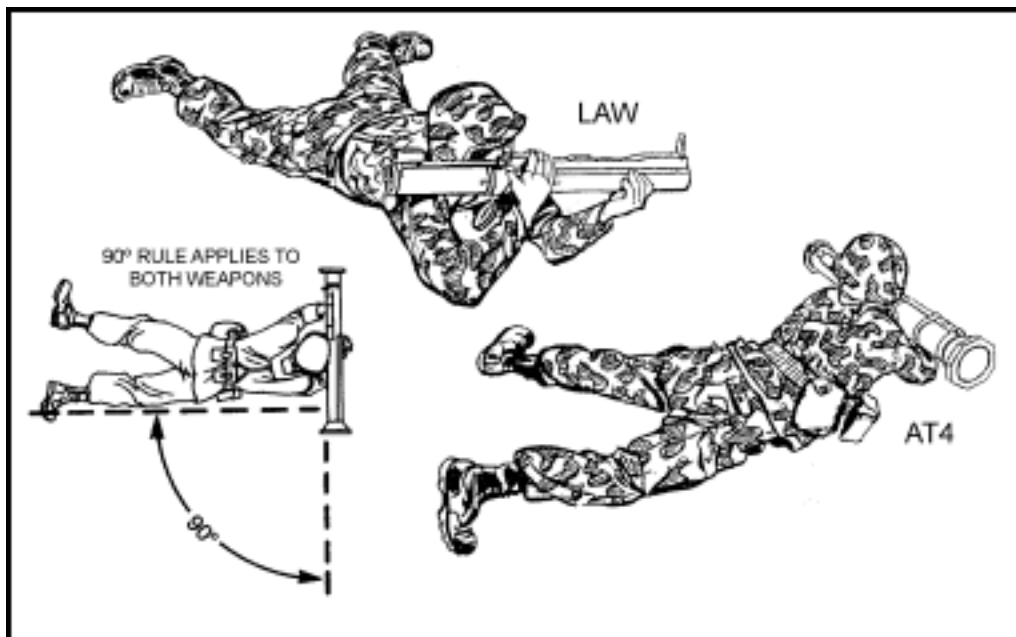

Figure 5-8. Prone positions.
c. Unlike other firing positions, this one prevents you from placing the launcher on your right shoulder. Instead, you must hold the launcher in place against your upper right arm. For stability, apply extra pressure on the firing mechanism with your right hand. The prone position is the *least* stable of all firing positions. You must practice it often to become confident using it. Figure 5-8 shows the prone positions for the LAW and AT4.